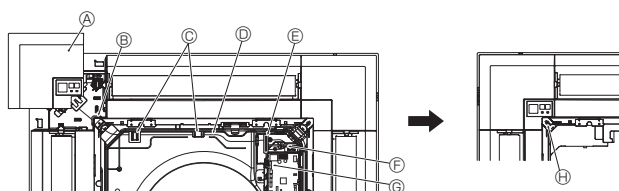

Fig. 7-9
7.4.5. Installing signal receiver (Fig. 7-9)